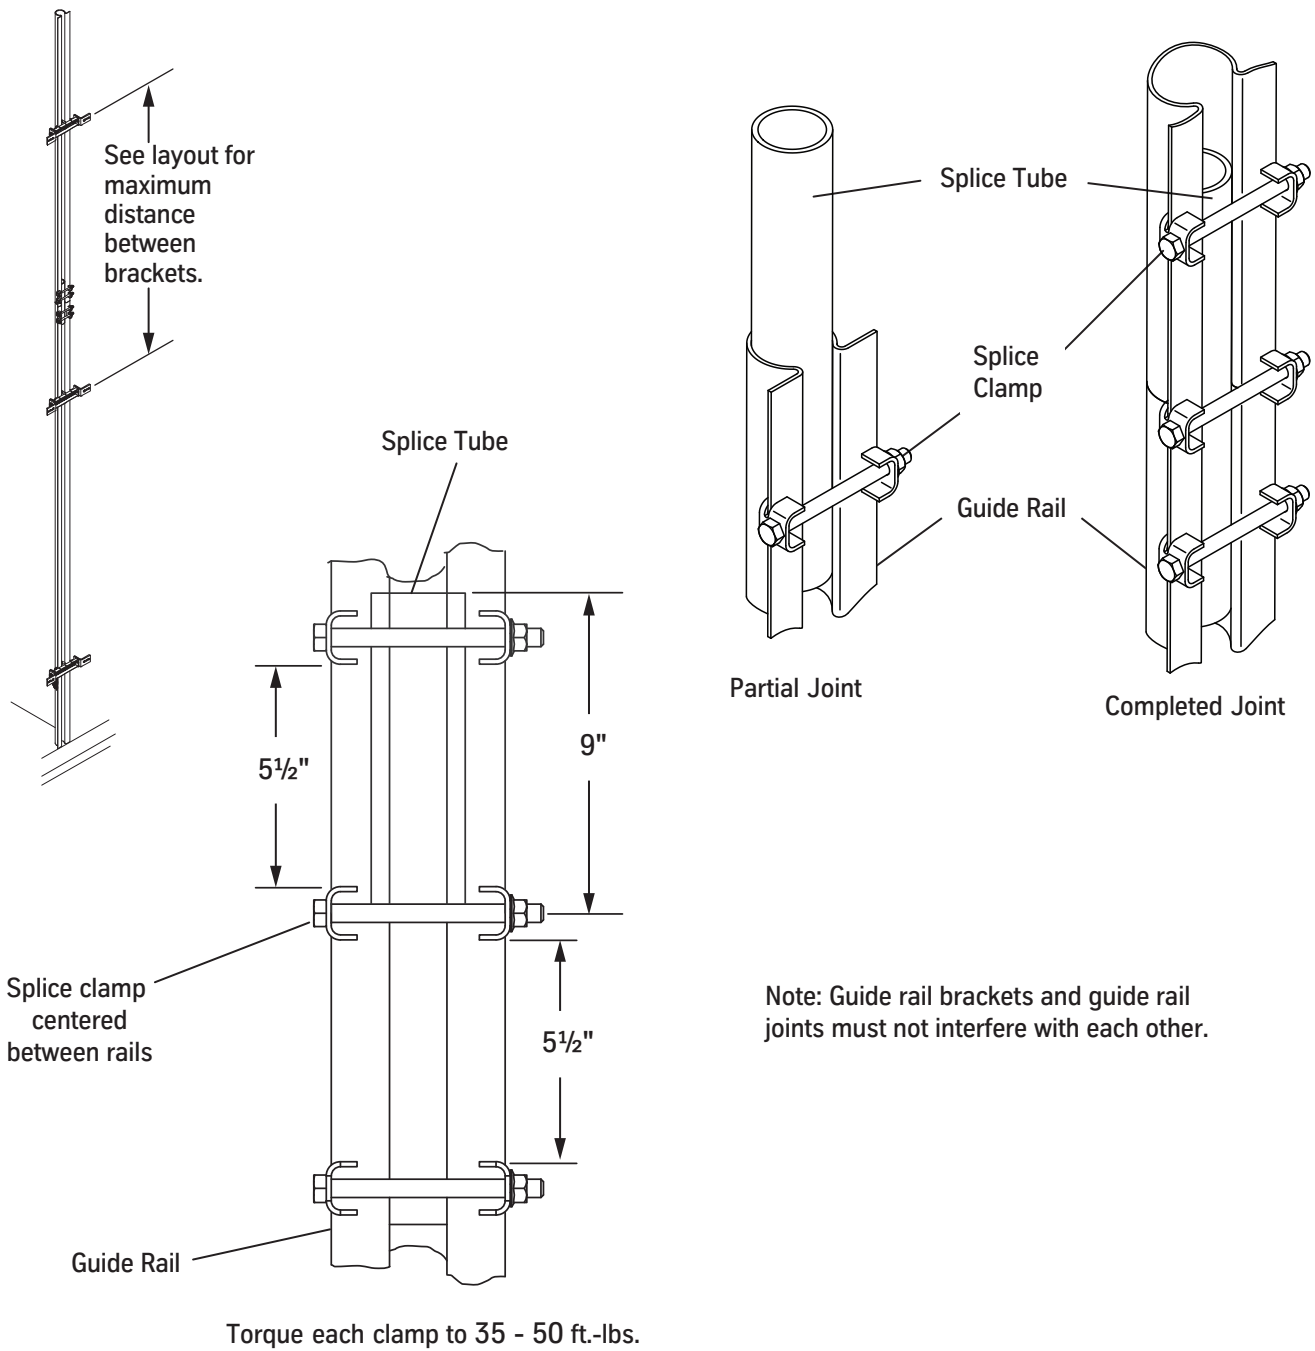

Figure 16 - Rail Splice and Final Rail Installation
2. Install the lasers on the pit template underneath the rails. See Figure 16 on page 28 for all steps in this procedure.